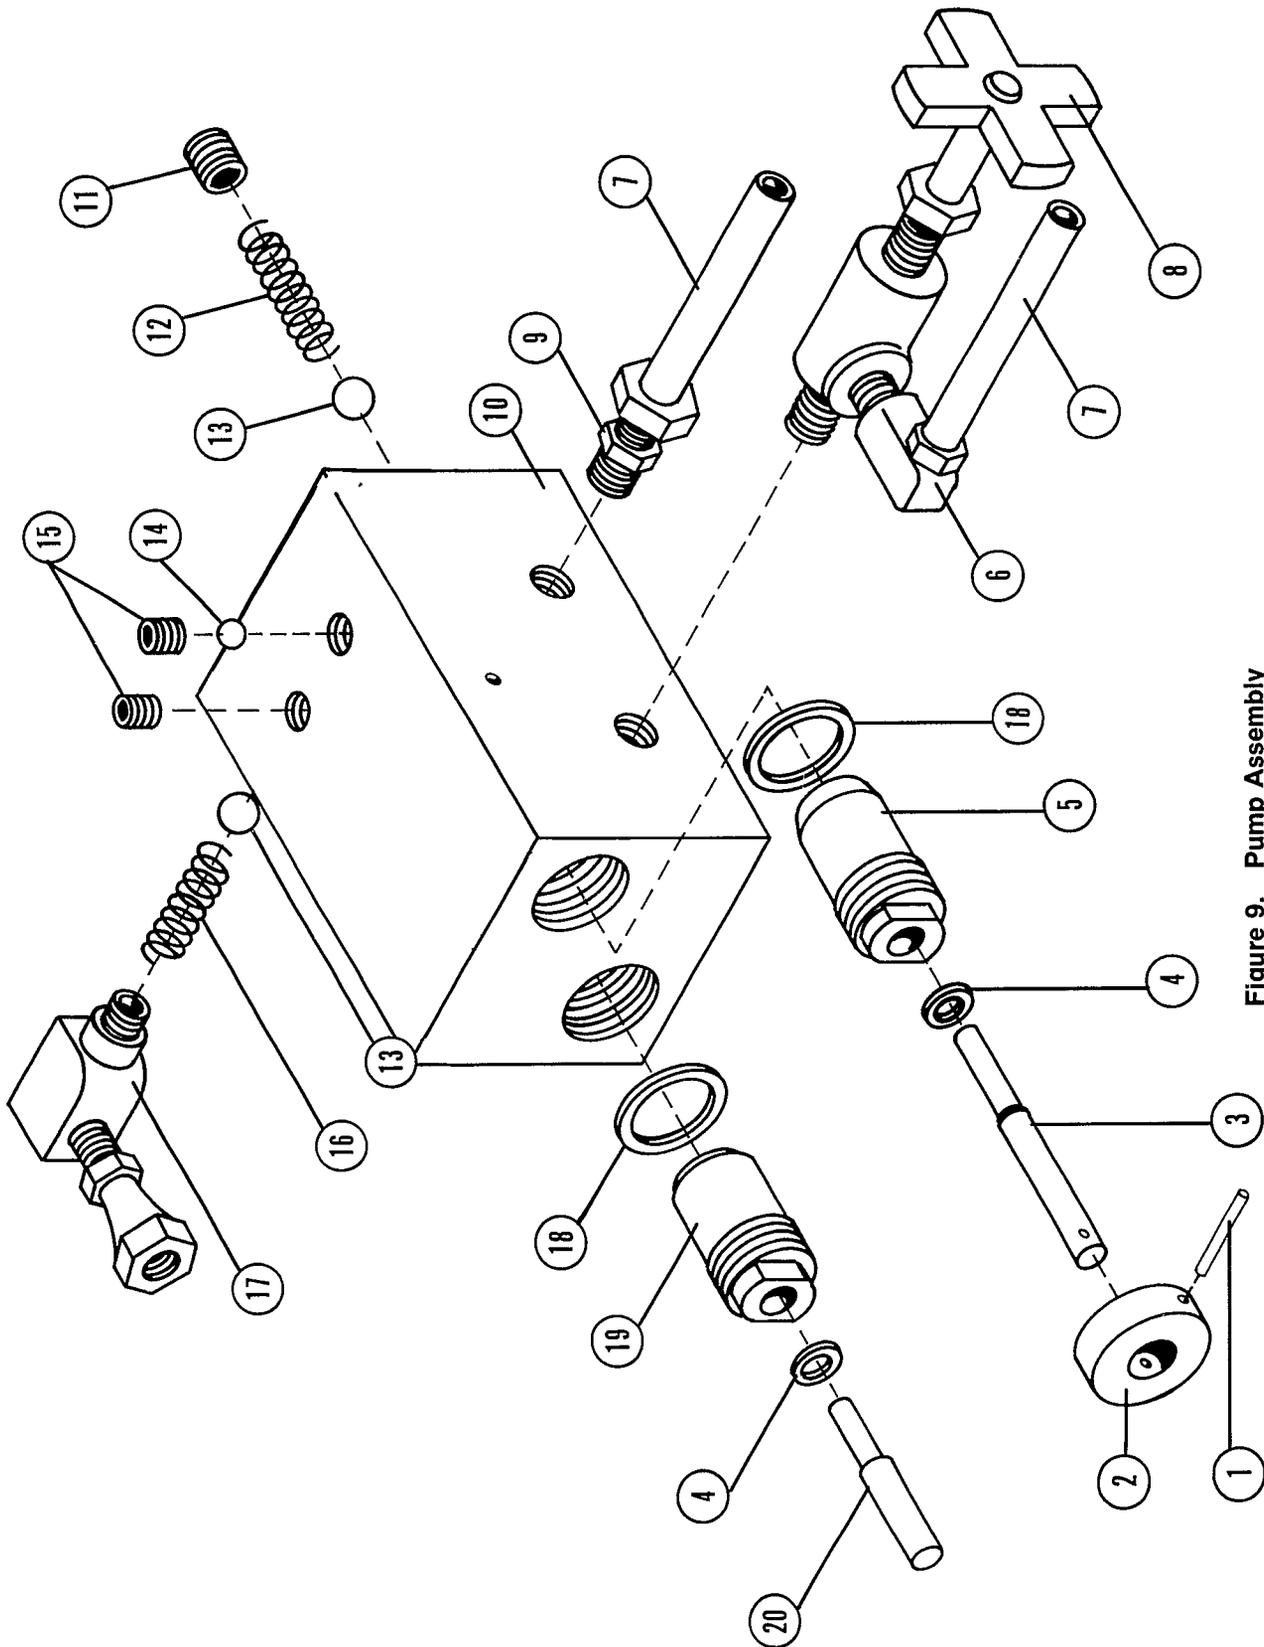

Figure 9. Pump Assembly
**MODEL CM-185 FIELD CHAIR (Refer to Figure 9)**